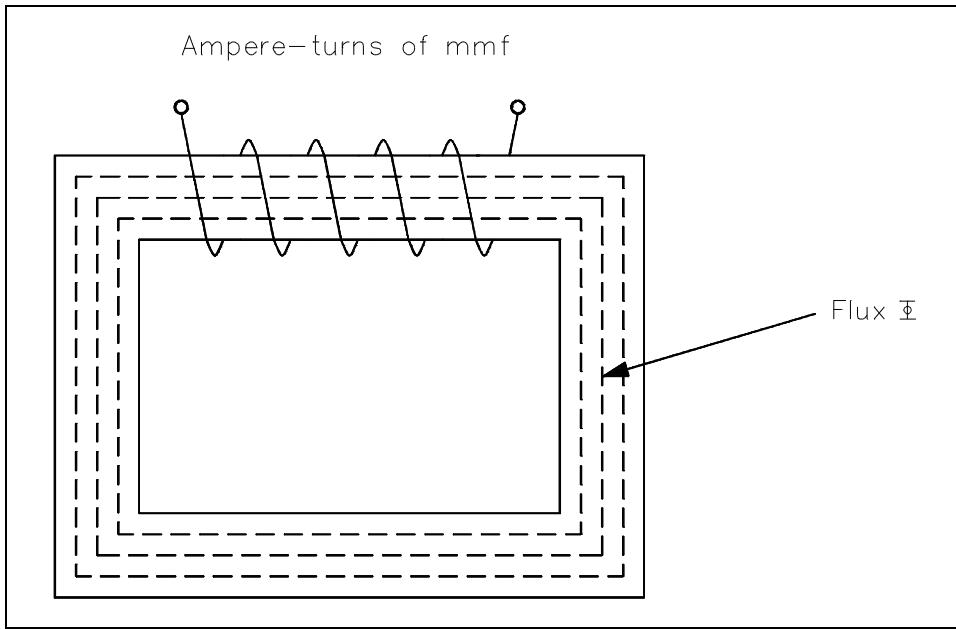

Figure 26 Magnetic Current with Closed Iron Path
A magnetic circuit can be compared with an electric current in which EMF, or voltage, produces a current flow. The ampere-turns (NI), or the magnetomotive force (F_m or mmf), will produce a magnetic flux Φ (Figure 26). The mmf can be compared with EMF, and the flux (Φ) can be compared to current. Equation (1-16) is the mathematical representation of magnetomotive force derived using Ohm's Law, $I = \frac{E}{R}$.